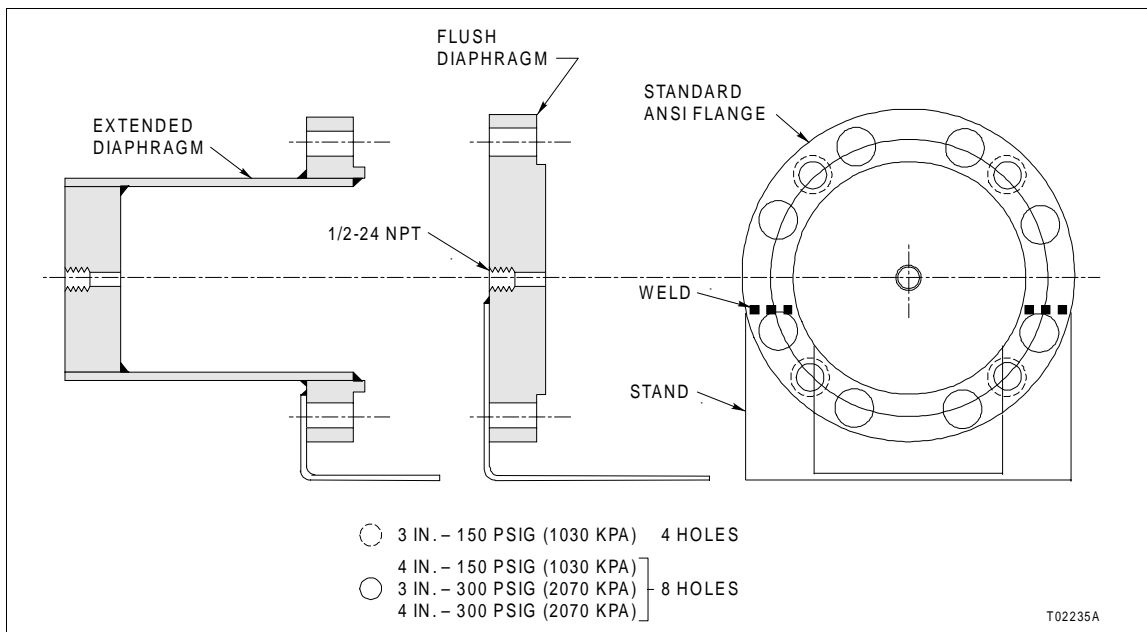
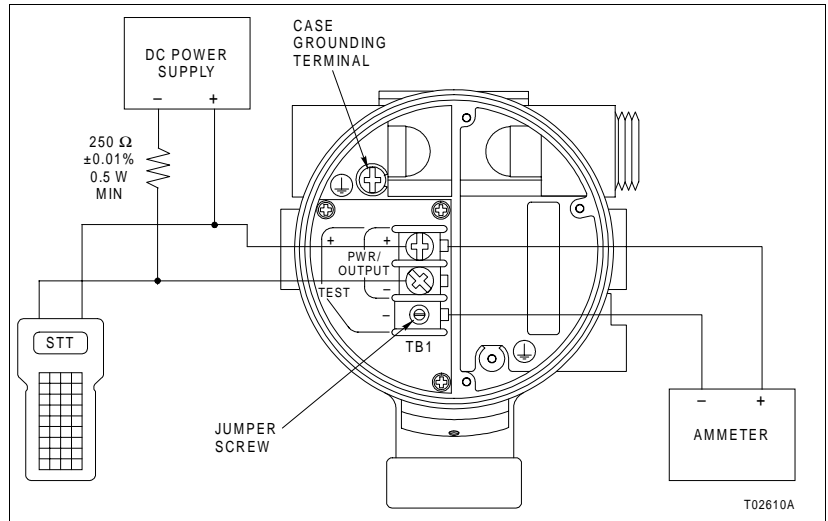

Figure 4-1. Shop Calibration Fixture
Figure 4-2. Calibration Setup (Typical)
- Shop calibration fixture (customer supplied - Fig. 4-1).
1. Mount the transmitter in one of the shop calibration fixtures shown in Figure 4-1 and connect the transmitter in a calibration setup such as the one shown in Figure 4-2.
1. Connect the transmitter in a calibration setup such as the one shown in Figure 4-2.